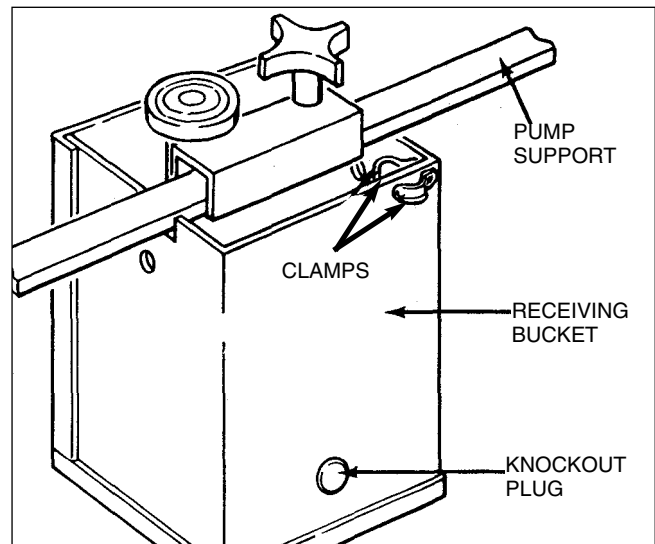

FIGURE 1-4, Bucket
6. Attach Filtered Oil Receiving Bucket to pump support (*see Figure 1-4*). Pump Support must engage notches in front and rear walls of Bucket. Knockout Plug should face left side of reservoir, as seen when facing front of machine. DO NOT remove Knockout Plug.